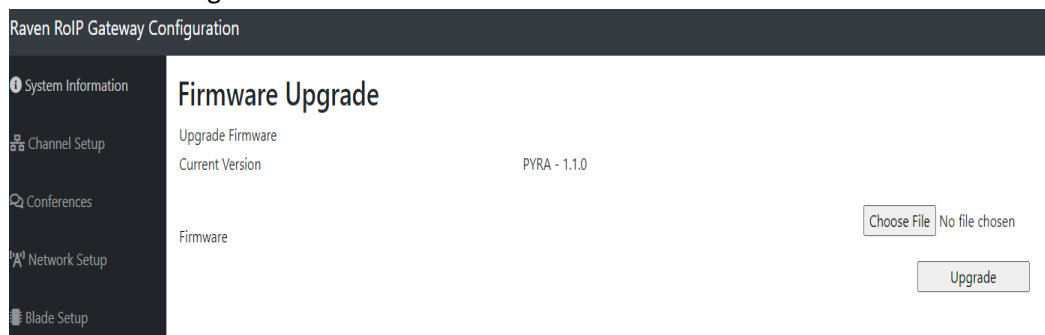

Figure 10-1: The “Upgrade Firmware” page where a new firmware file can be loaded onto the VoIP interface.
1. Navigate to the “System” tab on the left panel, click the “Upgrade Firmware ” in the drop down, and it will look like Figure 10-1.